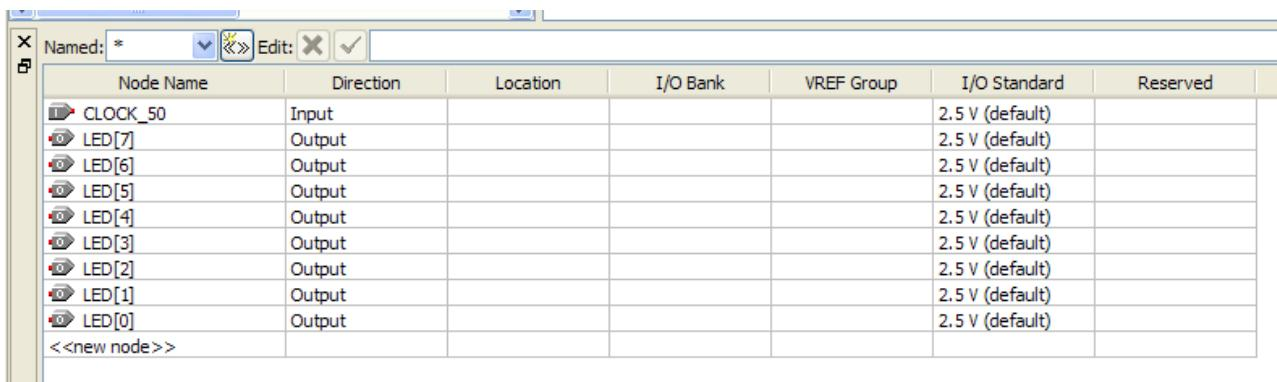

**Figure 7-49 Compile project completely**
37. A dialog box will appear upon successful completion of the compile, as shown in **Figure 7-49**.